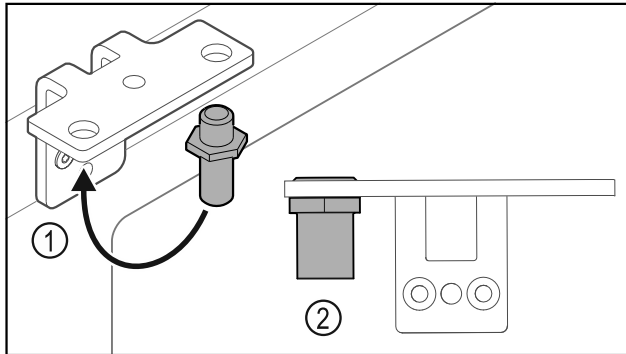

Fig. 27
- ▶ Put the pin back into the hinge Fig. 27 (1).
- ▶ Tighten the pin Fig. 27 (2) to a **torque of 12 Nm**.